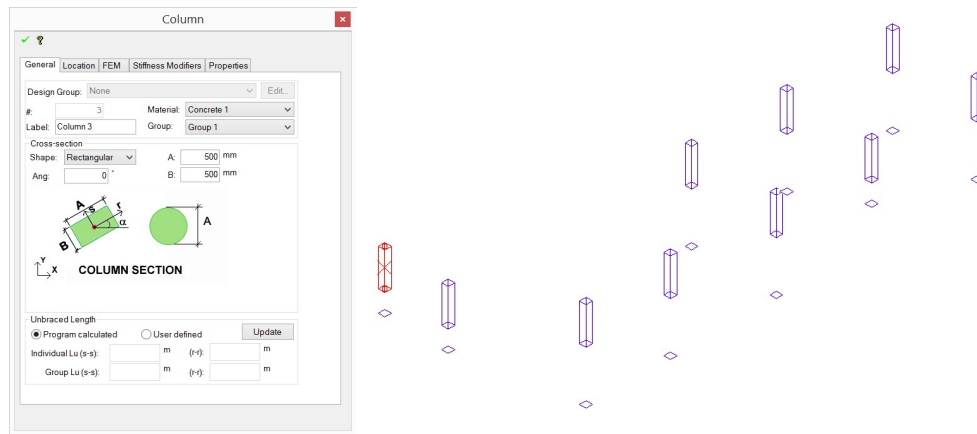

FIGURE 6.4-5 TOP-FRONT-RIGHT VIEW WITH TRANSFORMED COLUMN AND COLUMN DIALOG
- Change the view to an Isometric View by selecting **Top-Front-Right View** from **Home | Camera/Zoom**. You will notice all polygons are changed to a Column entity in the drawing; you may double click on any column to change or view its General Properties, Location, FEM Properties and CAD properties (as shown in **Figure 6.4-5**). Notice that when in ADAPT-MAT mode all columns will be resting on slab, i.e. modeled as **Upper Column** and placed under **Current_Plane_Column** layer.